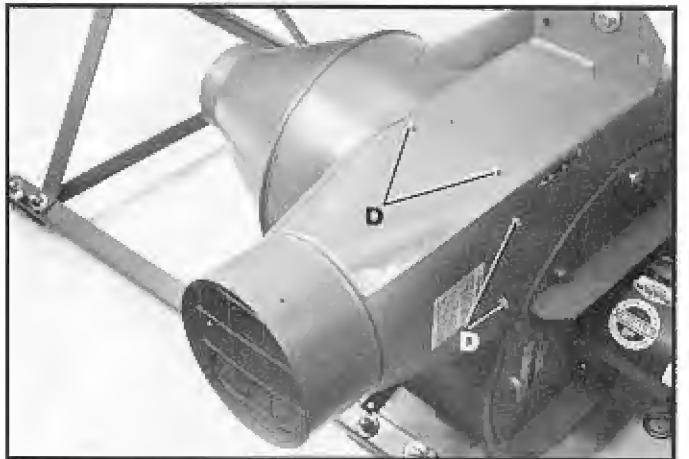

Fig. 17
2. Position outlet connector (C) Fig. 16, over lip of fan housing (B). Align holes in outlet connector (C) Fig. 16, with pre-drilled holes in fan housing (B), and fasten with eight #14 x 1/2" pan head screws, four of which are shown at (D) Fig. 17.